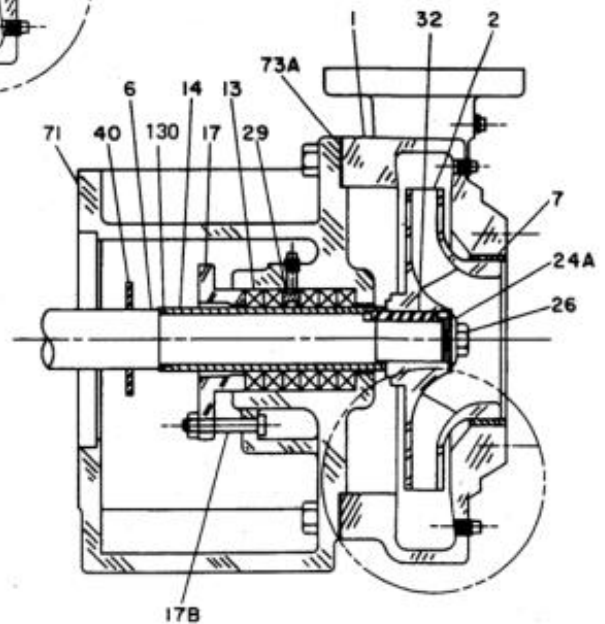

Figure 1. Type C End Suction Pumps
1. Remove any seal piping (tubing) that may be present between pump discharge and stuffing box of adapter (71, Figure 1).
2. Take out all screws and remove casing (1) and casing gasket (73A). If necessary, lightly tap with plastic hammer at several places to loosen casing from adapter.
3. Insert a rod of suitable diameter into a passage of impeller (2) and hold while loosening impeller lock screw (26). Remove lock screw and impeller washer (24A).
4. Slide impeller from end of shaft (6) and remove impeller key (32). If impeller is hard to remove, use a small wood block against adapter and pry carefully at several points around impeller to loosen.
6. For the backed pump, loosen both gland bolts (17B) and pull gland (17) out slightly to relax packing (13).
7. Remove screws and slide adapter (71) off from shaft. Use care not to scratch shaft sleeve (14).
9. Remove gland (17), packing (13) and lantern ring (29) (if furnished) from adapter (for packed pump).
10. Slide shaft sleeve (14) and deflector (40) from shaft. Remove O-ring (130) from shaft sleeve.
11. Remove casing ring (7) from casing only if damaged or worn to excess (refer to Repair).